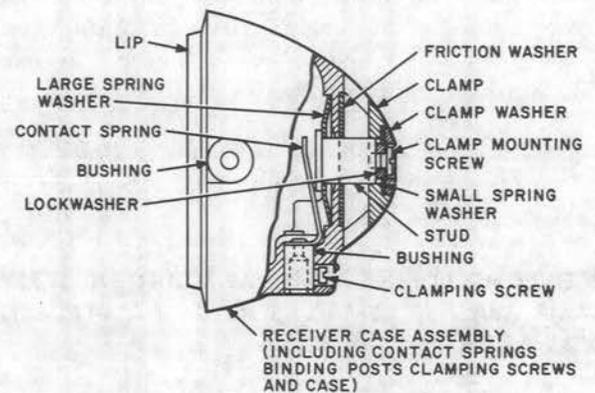

Fig. 10—10A Receiver Holder
**4.08** Remove the clamp and associated washers by removing the receiver holder clamp mounting screw (Fig. 10) using the 3-inch C screwdriver, and proceed as covered in paragraph 4.09 or 4.10, as applicable.
the transmitter arm tube. With the fingers pressing on the stud from the inside of the receiver holder (Fig. 10), slide the tube through the hole in the stud.
**4.11** Remove the clamp and associated washers from the new receiver holder by removing the clamp mounting screw, shown in Fig. 10, using the 3-inch C screwdriver.
**4.12** When assembling the receiver holder, hold it in one hand and insert the large spring washer under the contact springs with the concave side of the washer toward the back of the holder as shown in Fig. 10. Then insert the stud through this washer and the hole in the back of the receiver holder so that the transmitter arm tube hole is outside the receiver holder. Mount the friction washer over the stud so that it is flat against the receiver holder as shown in Fig. 10. Press on the stud from the inside of the receiver holder and slide the transmitter arm tube back into the stud. Reinsert the stopbar or end cap assembly, as applicable, and tighten the screw.
**4.13** Assemble the clamp and three associated washers as shown in Fig. 10.
**4.16** To replace any of these parts, remove the clamp, clamp washer, small spring washer, and the lockwasher from the receiver holder by removing the receiver holder clamp mounting screw, shown in Fig. 10, using the 3-inch C screwdriver.
**4.17** After replacing the part, assembly the clamp and three associated washers as shown in Fig. 10 and tighten the clamp mounting screw.
**4.30** With the contact springs in their proper position as shown in Fig. 10, insert the new clamping screws and tighten them using the KS-6854 screwdriver. Place the polyethylene disc and